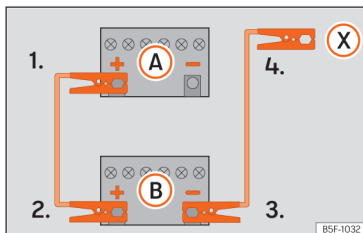

Fig. 81 Diagram of connections for vehicles without Start Stop system
2. Connect one end of the *red* jump lead to the positive (+) terminal of the vehicle with the flat battery (A) »» Fig. 81.
3. Connect the other end of the *red* jump lead to the positive terminal (+) in the vehicle providing assistance (B).
- 4a. *In vehicles without a Start-Stop system:* connect one end of the *black* jump lead to the negative terminal (-) of the vehicle providing the current (B) »» Fig. 81.